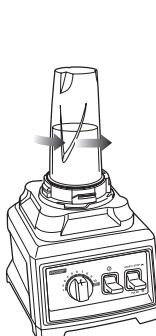

Fig. 12
- 7 When you have reached your desired consistency, turn the Nutri Ninja cup counter clockwise (**Fig. 12**) and pull straight up to remove. (**Fig. 13**)